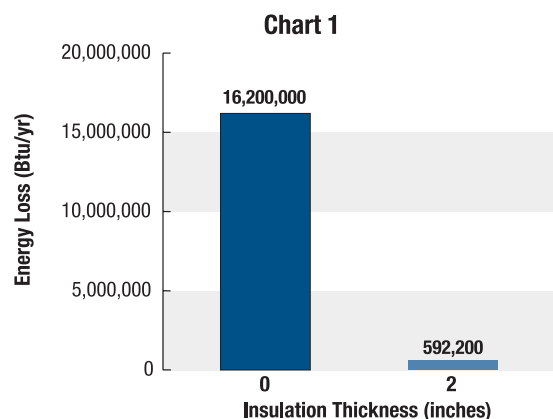

Figure 1. Thermal energy loss for bare versus insulated 4-inch pipe.
- **Energy conservation is next.** Without insulation, thermal energy would escape uncontrollably to the atmosphere, wasting billions of dollars. Figure 1 illustrates the energy loss from an uninsulated 4-inch pipe versus one insulated with 2 inches of insulation and covered with aluminum jacket.